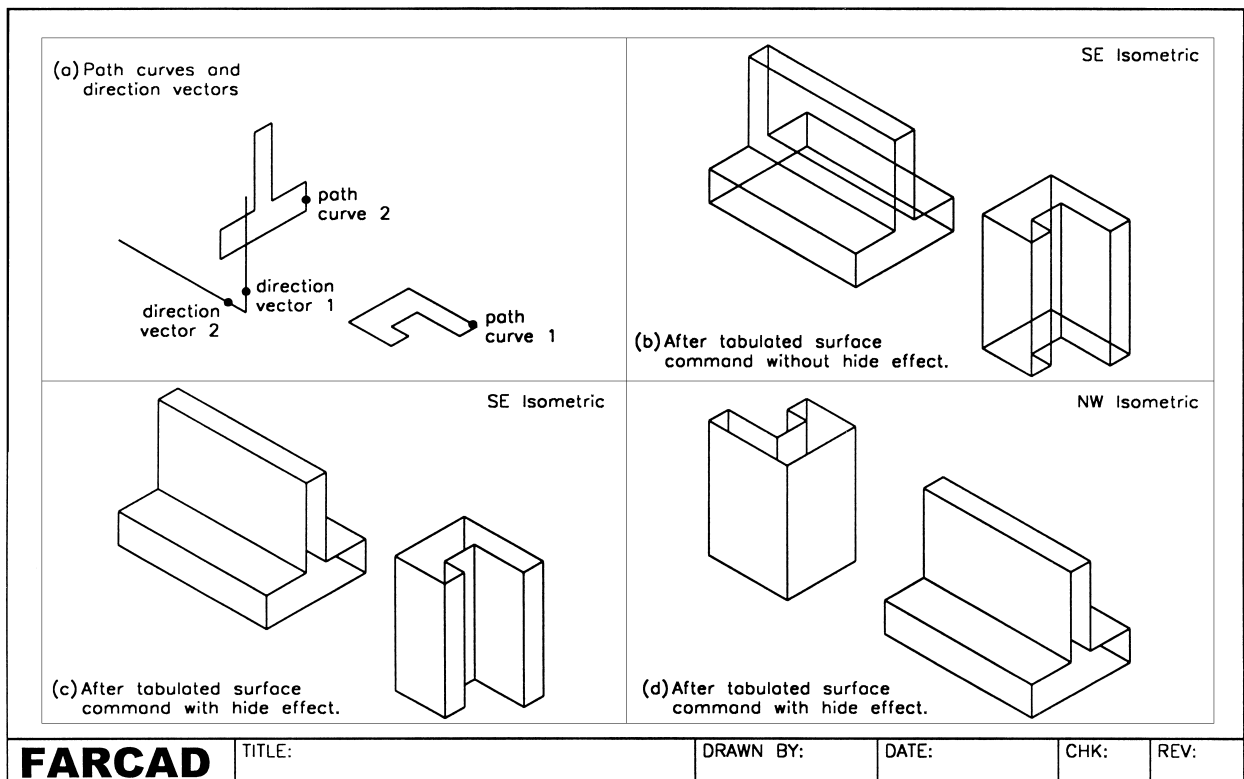

Figure 17.1 Tabulated surface example.
- 2 Refer to Fig. 17.1 (which only displays the 3D viewport) and draw two lines:
- 8 Figure 17.1 displays (in 3D) the results of the tabulated surface operations: